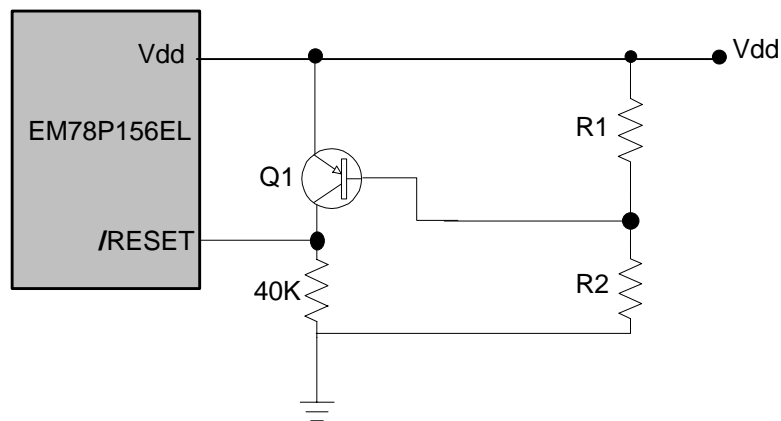

Fig. 16 Circuit 2 for the Residue Voltage Protection
The circuit shown in Fig.16 implements an external RC to produce the reset pulse. The pulse width (time constant) should be kept long enough for Vdd to reached minimum operation voltage. This circuit is used when the power supply has slow rise time. Because the current leakage from the /RESET pin is about $\pm 5\mu$ A, it is recommended that R should not be greater than 40 K. In this way, the /RESET pin voltage is held below 0.2V. The diode (D) acts as a short circuit at the moment of power down. The capacitor C will discharge rapidly and fully. Rin, the current-limited resistor, will prevent high current or ESD (electrostatic discharge) from flowing to pin /RESET.